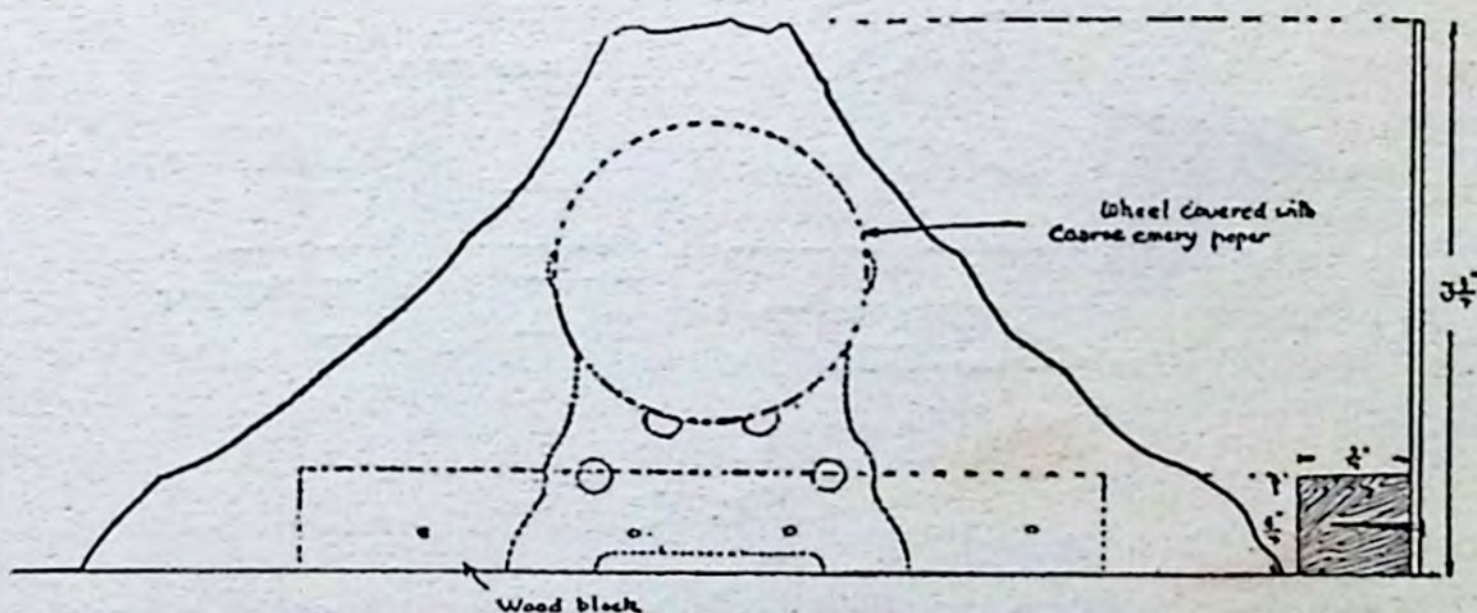

Fig. 44
**(50) MOUNT VESUVIUS IN ERUPTION:** Make the wheel as in the above experiment, but cover the rim of it with coarse emery paper and mount it on the motor shaft. Now draw a picture of Mount Vesuvius on a sheet of cardboard, cut it out and stand it up in part of your motor, as in Fig. 44. Press a nail against the rotating emery wheel, when it will send out myriads of sparks. If you will make this experiment in a dark room it will look as if Mount Vesuvius were in eruption again.